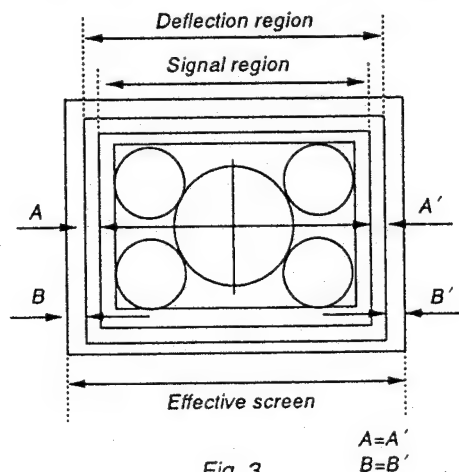

Fig. 3
7. Adjust **60 VIDEO PHASE** so that the signal region comes to the center ($A=A'$) of the deflection region. (Fig. 3)